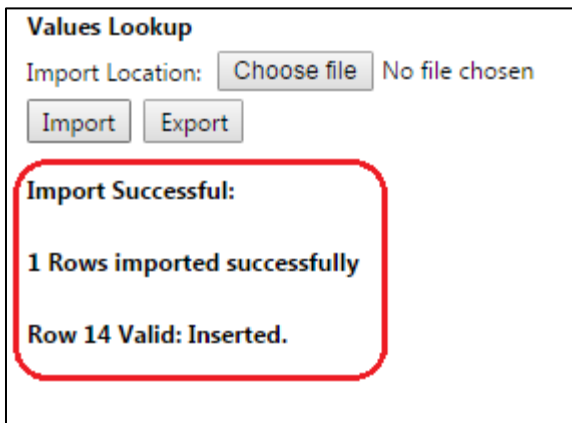

Figure 14.
- 6) The next screen will tell you if the import was successful. See figure 14.